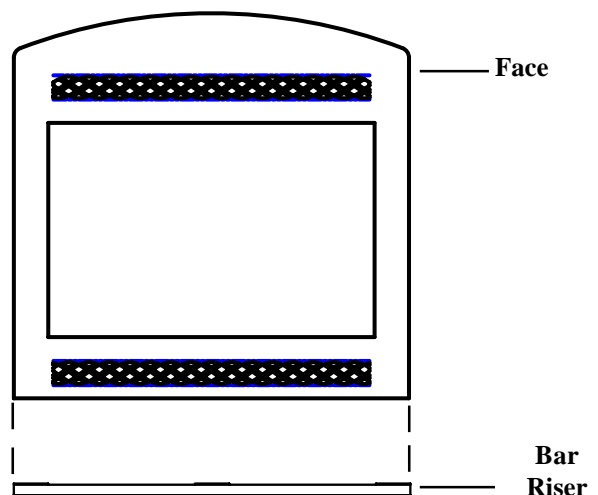

Figure 1 - Attaching bar riser to face
3. If you do not require 3/4” space for finished material, use bar riser. Install bar riser on to the bottom of face. The bar riser will fit on the bottom of the face. (See Figure 1)